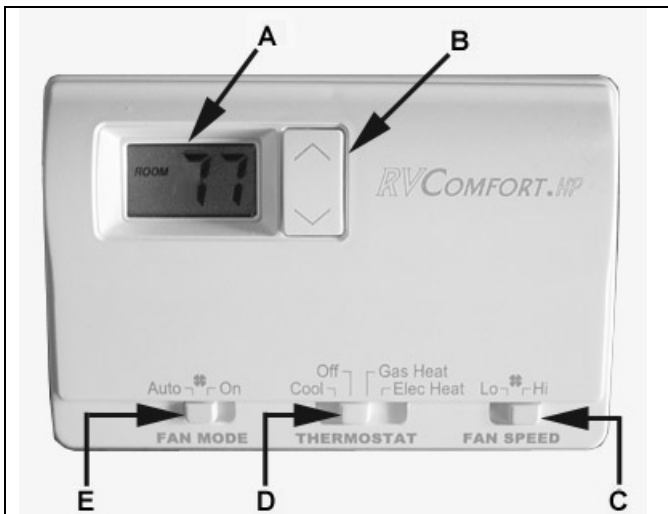

Figure 8-2 – A/C Thermostat
- Move the thermostat switch (D) to the Cool or Elec Heat position. See figure 8-2.
- Select the desired temperature using the Set Point Control (B).